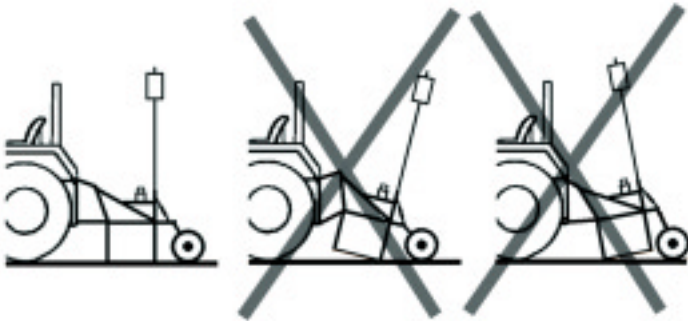

Figure 4.2
- Ensure that the GRADEMASTER is in the operating position (hitch arms down, blade perpendicular to ground). See Figure 4.2.